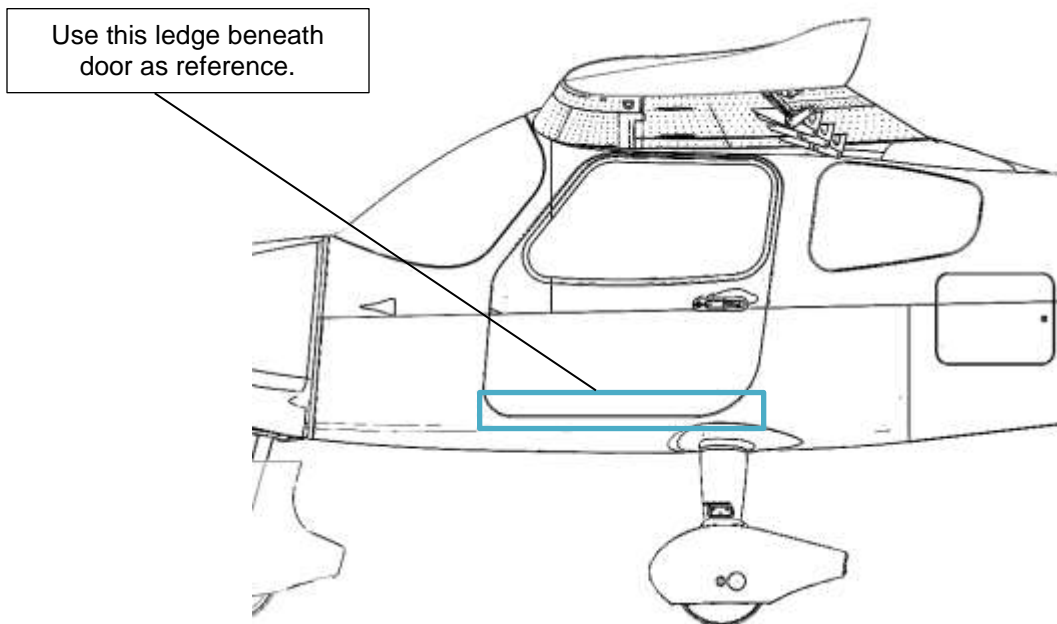

Figure 2: Longitudinal levelling reference position.
1. To take measurements, open the cabin door and rest (align) a spirit, water or electronic level along on the exposed ledge under the door beneath the wing, as shown in Figure 2.